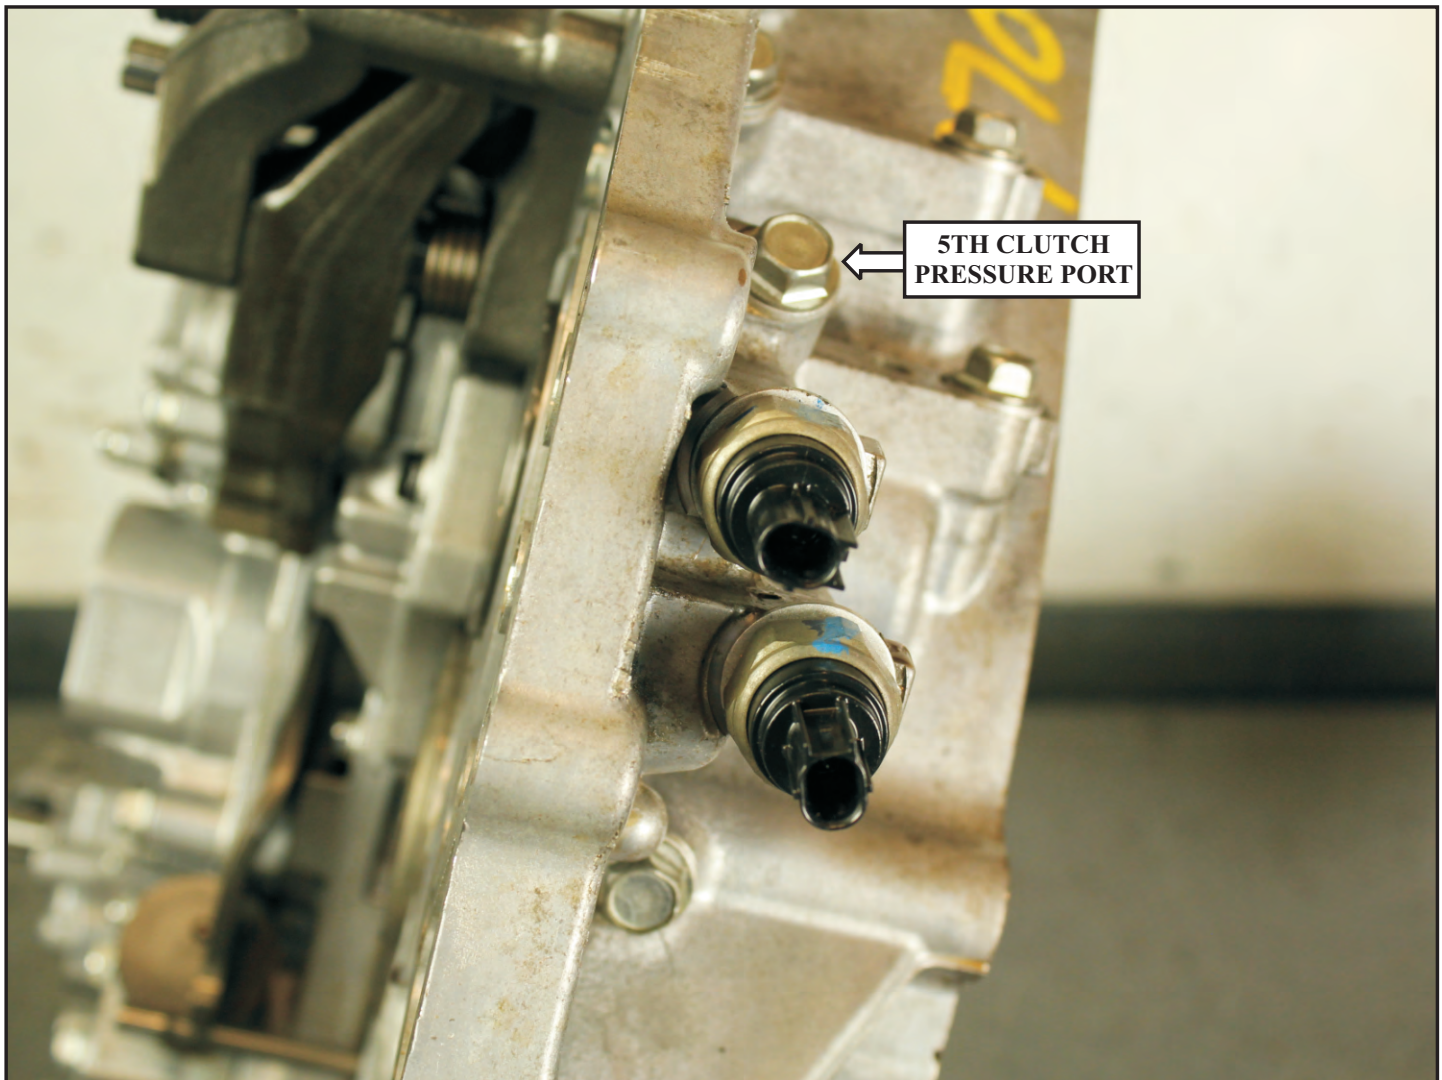

Figure 6
3. Connect the pressure gauge to the 5th clutch pressure port marked "5" seen in figure 6.